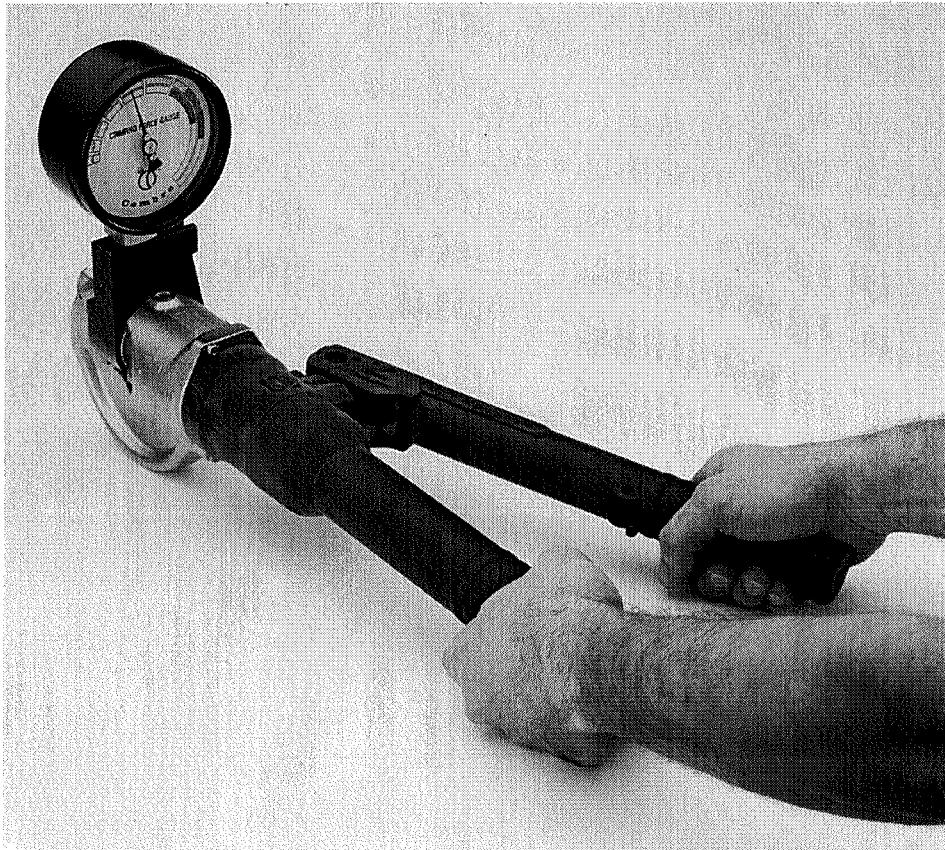

FIG. 4 – TEST
2.3) Test (Ref. to fig. 4)
- Press the pressure release lever (13), to restore indicating needle to “zero” position.